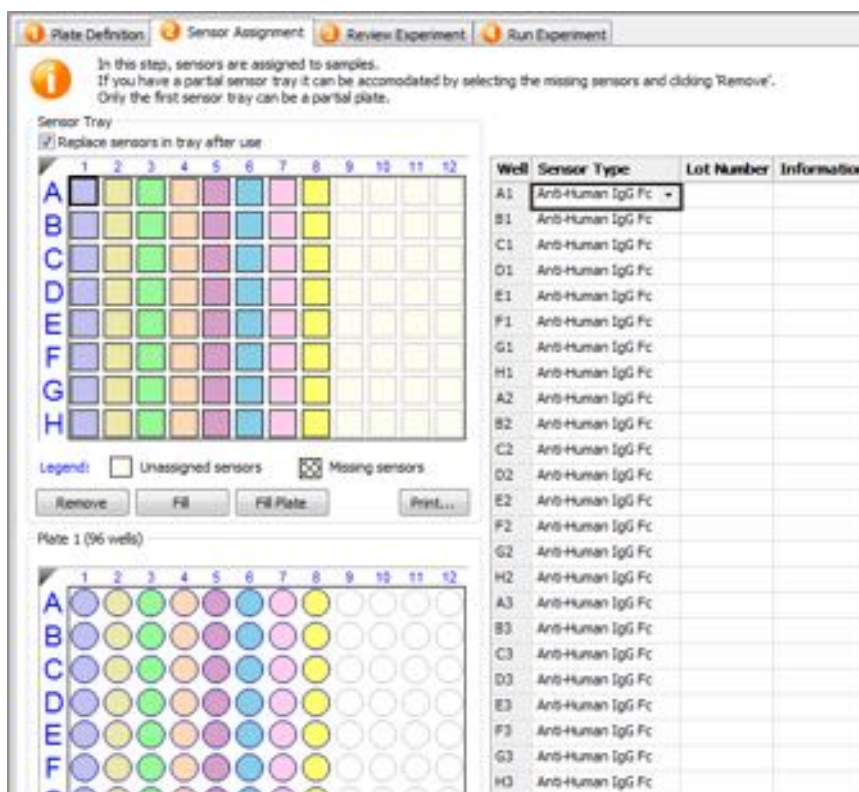

Figure 5-32: Changing Biosensor Types
- Select a cell in the **Sensor Type** table column, click the down arrow and select a biosensor type from the drop-down list (see Figure 5-32).